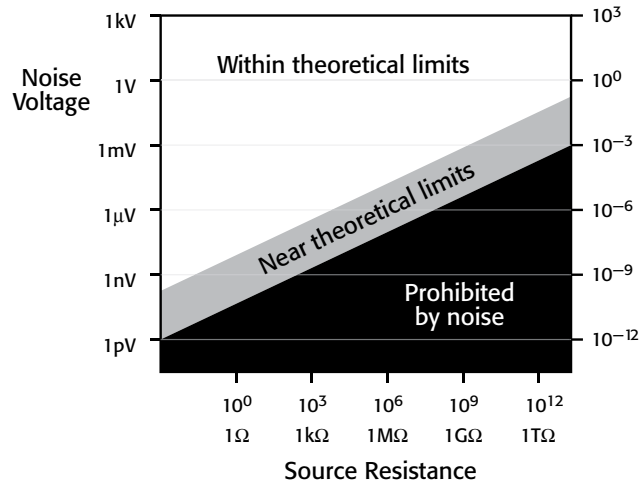

Figure 6.
- Theoretical measurement limits.** The laws of physics provide a fundamental limit of how low a signal can be resolved because every system will generate some level of voltage and current noise. *Figure 6* identifies the levels of voltage that are impossible to measure, as well as the levels approaching the theoretical limits of voltage measurement.